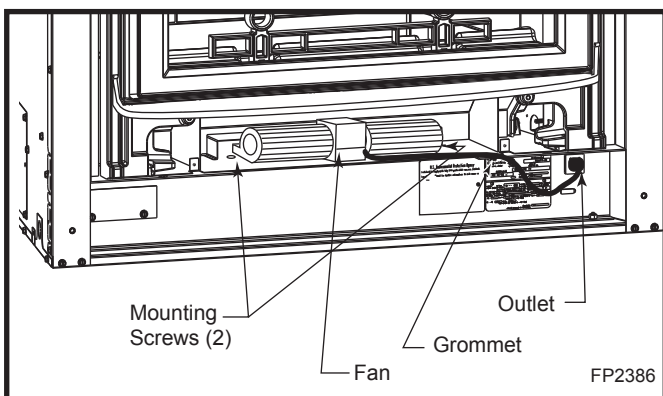

Fig. 40 FK26STRAT fan placement.
1. With the decorative face and iron ash lip removed place fan assembly at the front of the unit below the door, Attach using two (2) Philips screws provided. (Fig. 40)
2. If the receptacle box was connected when the unit was installed, the fan lead can be directly plugged into the outlet. Refer to Page 9, "Installing the Electrical Wire". Run the power cord to the right and press the rubber grommet into the slot as indicated in Figure 40.